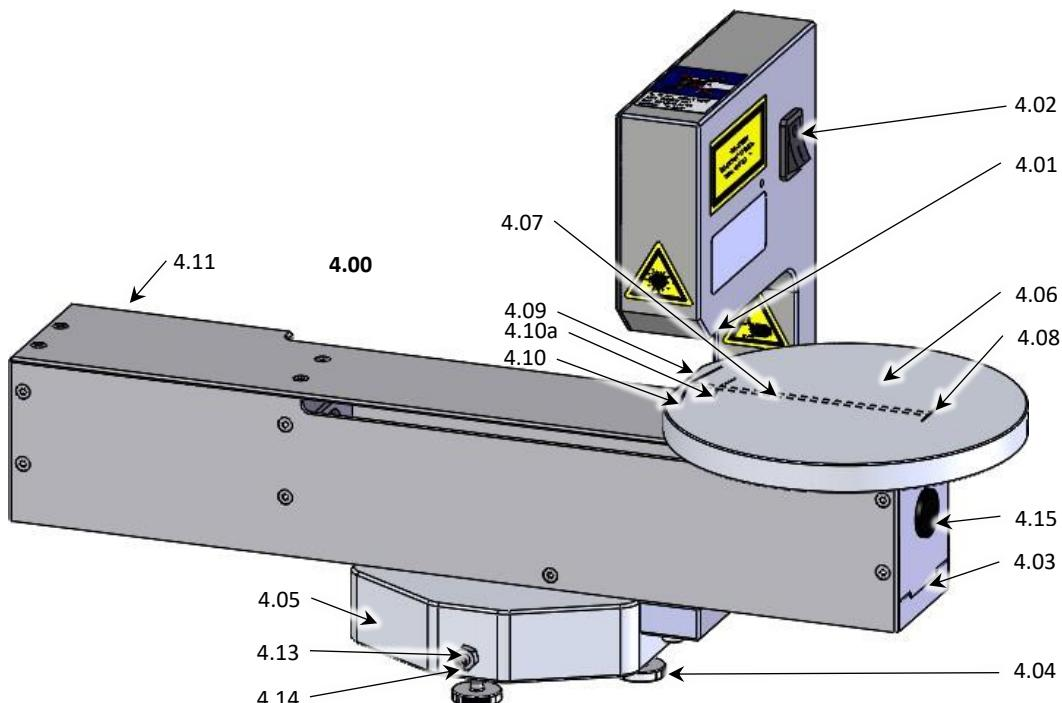

Fig. 1 Front view of Positioning Device
- Plug the 9-pin Sub-D plug of the BE 4 - DTE II supply cable into the socket of the positioning device (4.11, Fig.1) and tighten the screws.